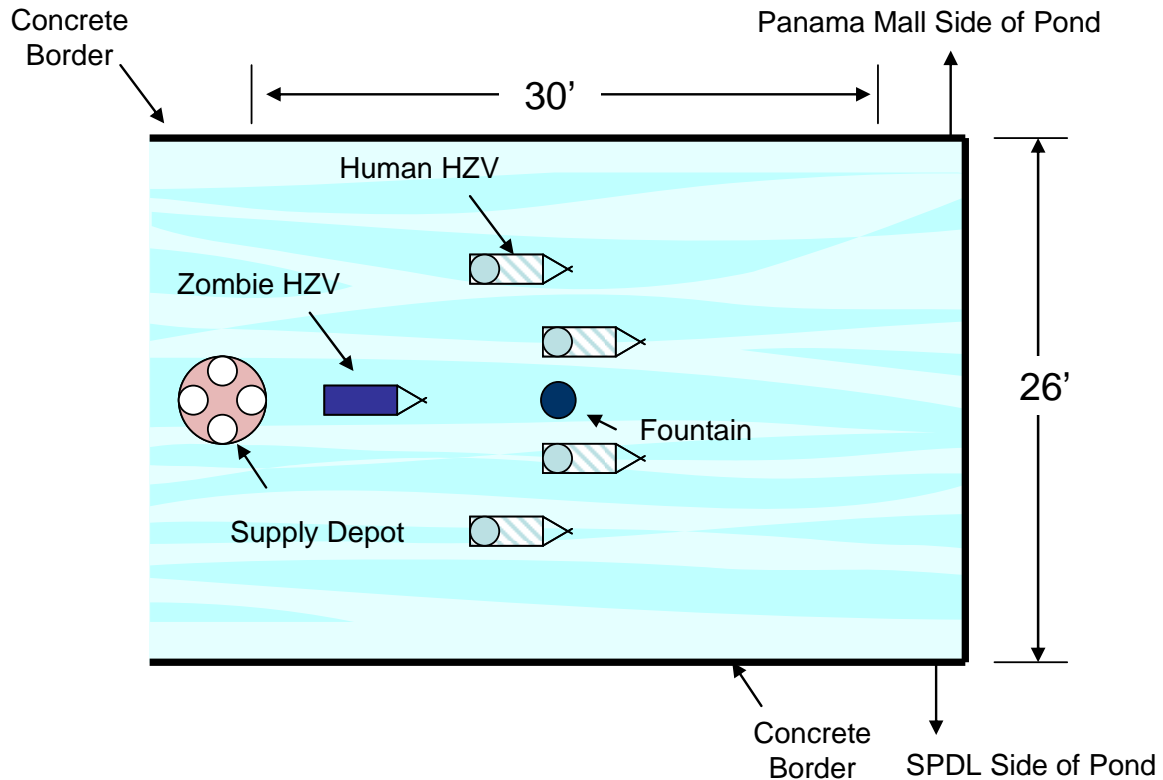

Figure 1: Field layout and dimensions with sample initial configuration
- The Field is comprised of a region at the East end of Terman Pond, initially measuring approximately 26 ft. wide by 30 ft. long (see Figure 1). One fountain spout will be located at the approximate center of the Field. Every effort will be made to ensure that the fountain will be off during grading sessions and public presentations.
- At the beginning of each game all participating HZVs will be placed in a physical arrangement at the whim of the teaching staff. One possible arrangement is shown in Figure 1.
- The Supply Depot(s) will be floating freely in the pond, one possible configuration is shown in Figure 1.